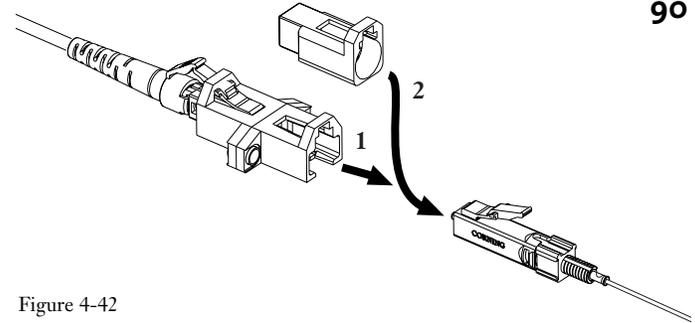

Figure 4-42
**4.8-9** If you are using the CTS system, remove the connector from the CTS coupler and replace the front dust cap (Figure 4-42).